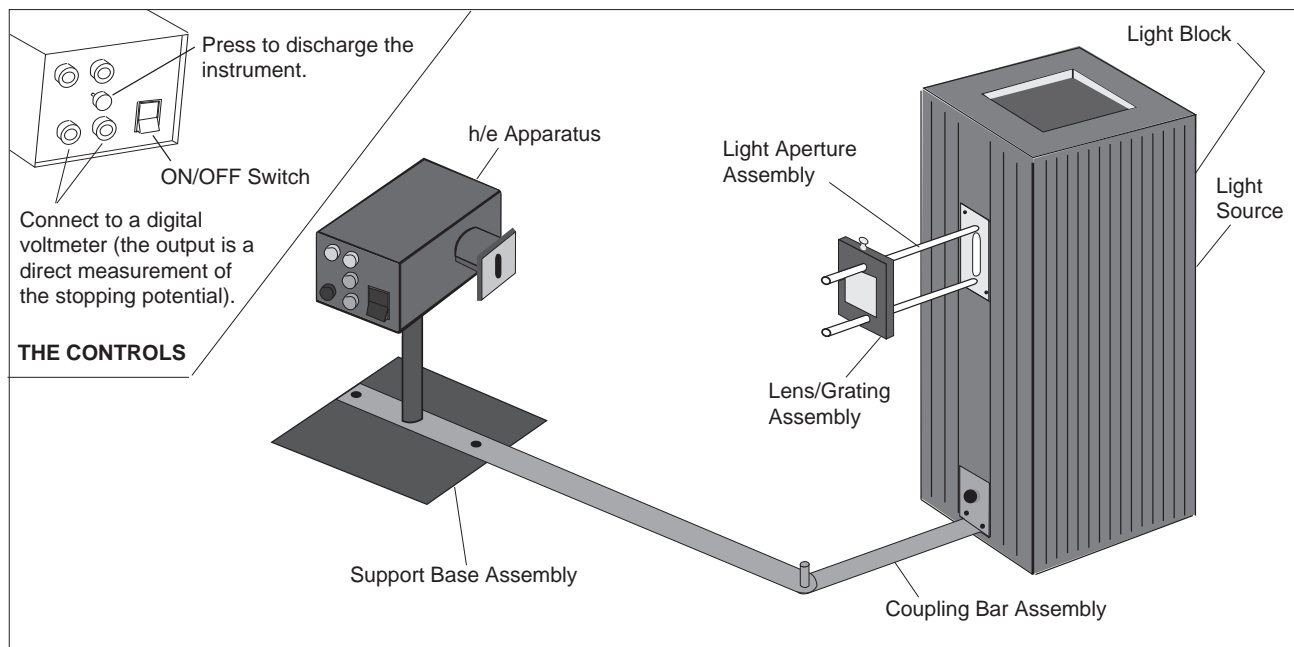

Figure 5. Equipment Setup Using a Mercury Vapor Light Source and the h/e Apparatus
The standard setup for h/e experiments is shown in Figure 5. Details for setting up the apparatus are described below.
5. Insert the Coupling Bar assembly into the lower mounting groove of the Light Source (Figure 5). Secure in place by tightening the thumbscrew against the front of the Light Source housing.